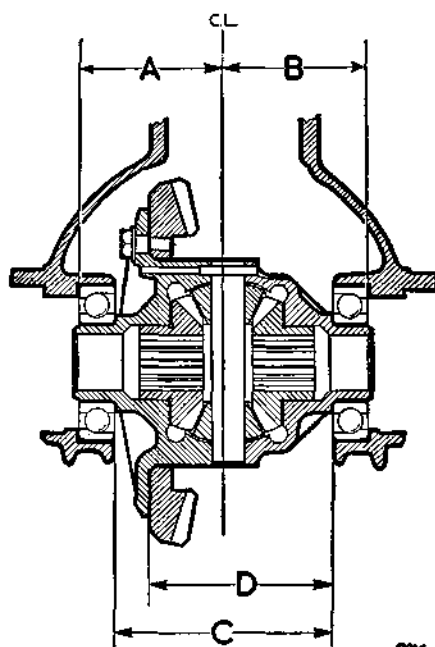

Fig. H.10
- Before fitting the crown wheel and differential assembly to the gear carrier it is necessary to calculate the shim thickness required behind each bearing to give the required pinch. To facilitate the calculation, machining variations are indicated by stamped numbers on the carrier adjacent to the bearing bores. The dimensions to be considered are shown in Fig. H.10, (A) being the distance from the centre-line to the bearing register of the carrier on the left-hand side and (B) the distance from the centre-line to the bearing register of the carrier on the right-hand side. The (C) dimension is from the bearing register on one side of the cage to the register on the other side, while the (D) dimension is from the rear face of the crown wheel to the bearing register on the opposite side. Any variation from nominal on the (A) dimension will be found stamped on the carrier adjacent to the bearing bore, and similarly with the (B) dimension. The variations from nominal on (C) and (D) dimensions are stamped on the machined face of the differential cage.